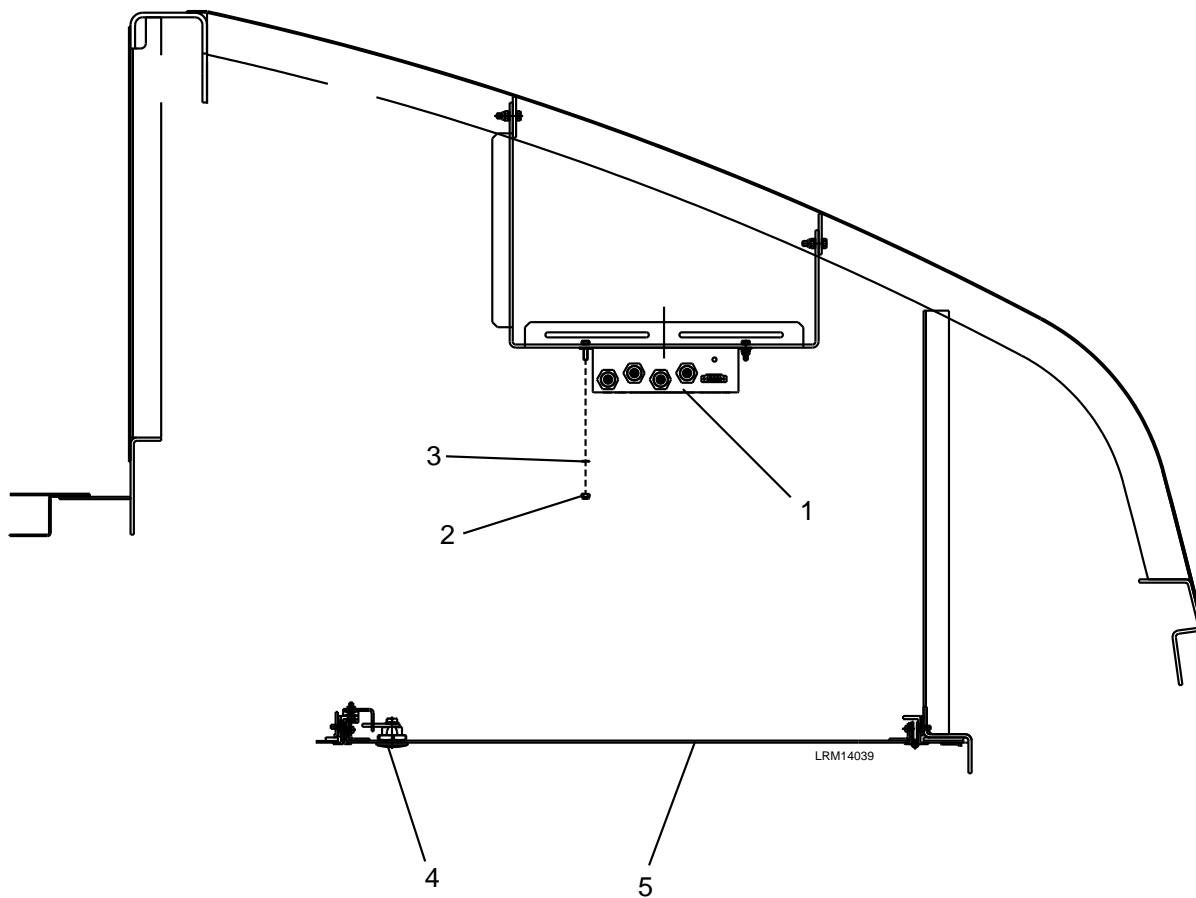

Figure 7-6: VGA Extender Send Unit
1. Unlock the two locks (4) and lower the cab ceiling panel (5) to access the VGA Extender Send Unit (1) and disconnect the electrical connections using a Torque Screwdriver for the M12 connections. See Figure 7-6.
2. Remove the four M4 hexagon nuts (2) and M4 plain washers (3).
3. Carefully remove the VGA Extender Send Unit (1).